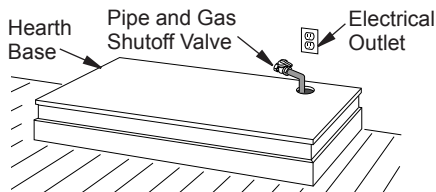

Figure 10 - Placing Hearth Base Against Wall
2. Place hearth base against wall at installation location. Cut an access hole in hearth base to run gas line to fireplace (see Figure 10). Make sure to locate access hole so cabinet mantel will cover it when installed. *Note:* You can secure base to floor using wood screws. Countersink screw heads and putty over.